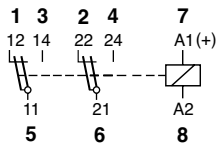

Fig. 1 AC voltage endurance
**Connection diagram****Fig. 1 AC voltage endurance****Fig. 2 DC load limit curve****Dimensions [mm]****Technical approvals, conformities**
AccessoriesSocket: **S7-M, S7-I/O, S7-L, S7-P, S7-P0****Connection diagram****Fig. 1 AC voltage endurance****Fig. 2 DC load limit curve****Dimensions [mm]****Technical approvals, conformities**